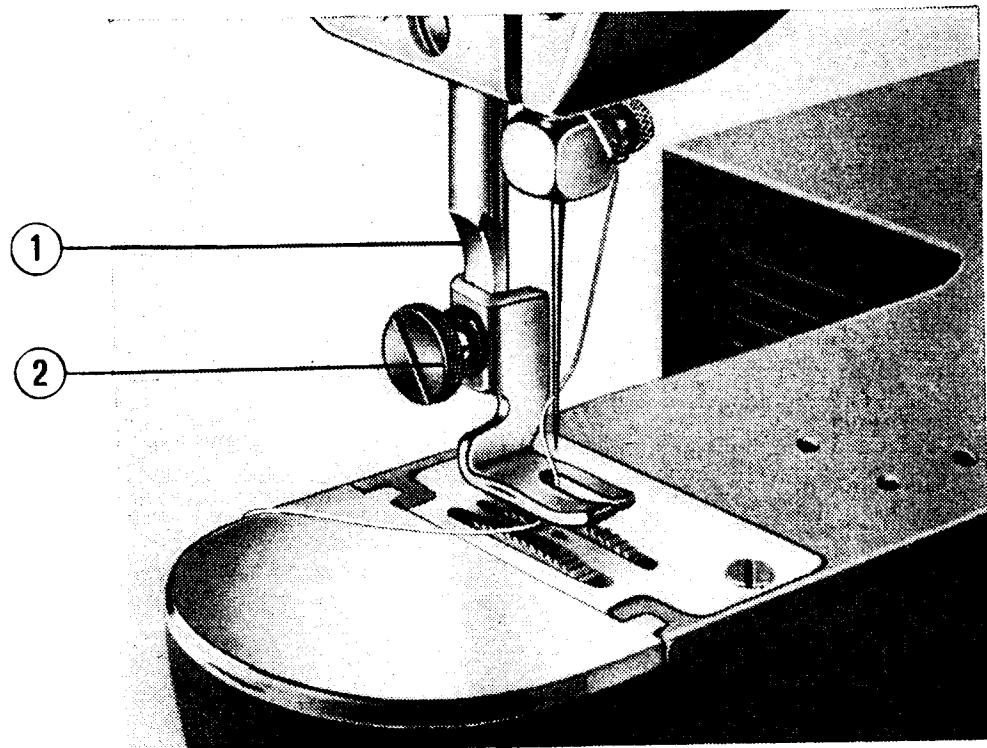

Fig. 17
By loosening the screw (2) each attachment can be slid onto the cloth presser bar (1) (Fig. 17).